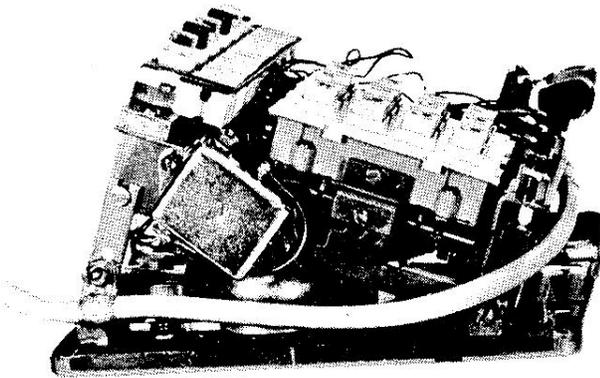

Figure 25. Buzzer Location in the Type 187 Telephone Set.
- (1) Remove the telephone set housing as instructed in Paragraph 7.07 or 7.08, as applicable.
- (2) Using the two securing screws supplied with the buzzer, mount the buzzer on the telephone set chassis as shown in Figure 25.
- (3) Connect the red and green buzzer leads to terminal board terminals 7 and S, respectively.